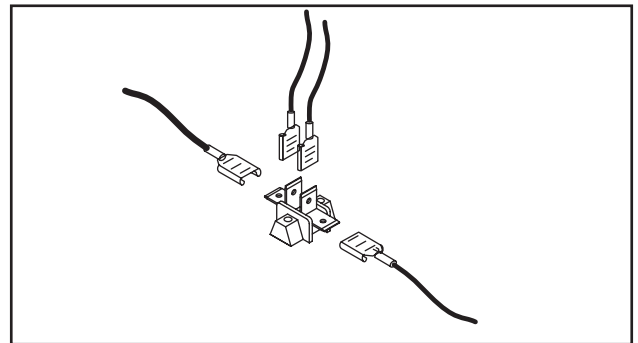

Figure 17. 4-Tab Terminal Block
4. Disconnect Wire 14 at the Fuel Solenoid (FS).
- b. Connect the positive (+) test lead to Wire 14 at the 4-tab terminal block in the control panel, see Figure 17. Connect the negative (-) test lead to frame ground. While observing the meter, set the AUTO-OFF-MANUAL switch to MANUAL. Battery voltage should be measured.